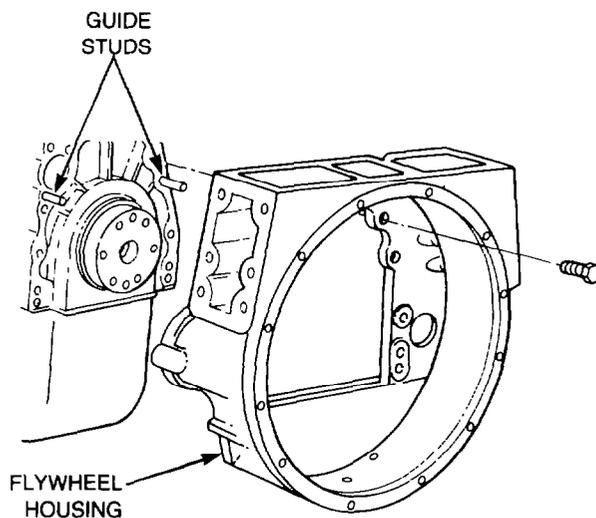

Figure 11 — Flywheel Housing — Removal
- w. Replace two of the flywheel housing retaining bolts with guide studs, then remove the remaining bolts. Lightly tap the flywheel housing using a rubber mallet to separate the housing from the cylinder block locating dowels, then remove the flywheel housing (see Fig. 11).